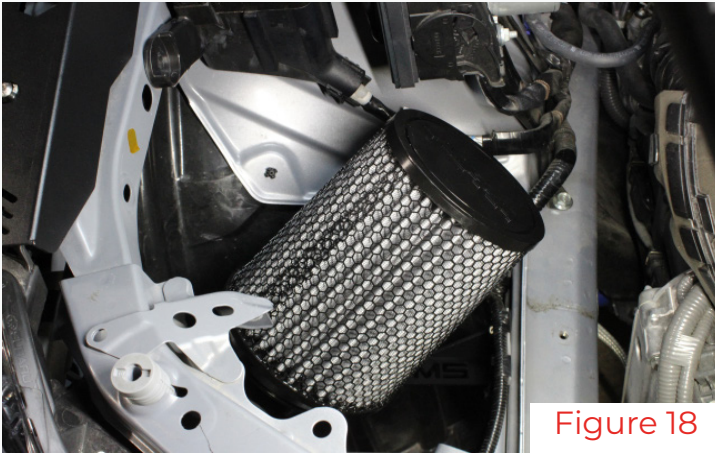

Figure 18
14. Install the filter onto the MAF adapter and install the MAF assembly onto the intake tube silicone again making sure to bottom it out on the internal step (Figure 18).